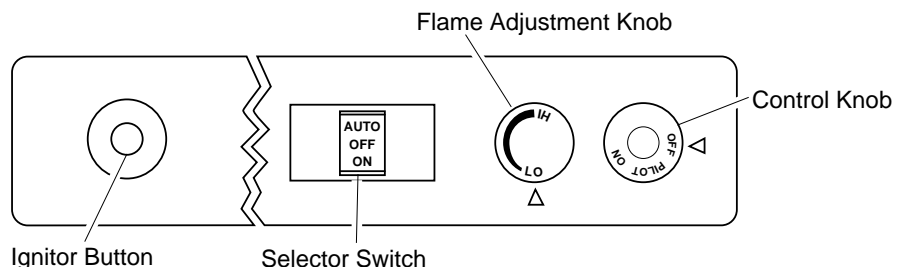

Figure 22 - Control Knob and Ignitor Button Location (Shown as Supplied, No Control Options)
5. Wait five (5) minutes to clear out any gas. Then smell for gas, including near the floor. If you smell gas, **STOP!** Follow "B" in the safety information, column 1. If you don't smell gas, go to the next step.
6. Press in and turn control knob counterclockwise  to the PILOT position. Press in control knob for five (5) seconds (see Figure 22).